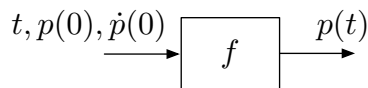

Figure 2.41: Problem about throwing a baseball.
11. A baseball is thrown and we want to model the ball's motion while in flight. Drawing a block diagram means determining what the variables are and how they depend on each other. Let us neglect the ball's rotation and think of it as a point mass. One variable is therefore the position of the ball, with respect to, say, a coordinate system fixed to the earth. Let us denote position at time t by $p(t)$, a three-dimensional vector. What does $p(t)$ depend on? The force of gravity, but that is fixed, not a variable, and therefore not an input. The position of the ball depends obviously on the force with which it was thrown, where it was thrown from, and what direction it was thrown. Equivalently, $p(t)$ depends on the initial position and velocity, $p(0), \dot{p}(0)$, and the time t . Thus the block diagram is Figure 2.41. The input is a vector of 7 real numbers and the output is a vector of 3 real numbers. The equation is